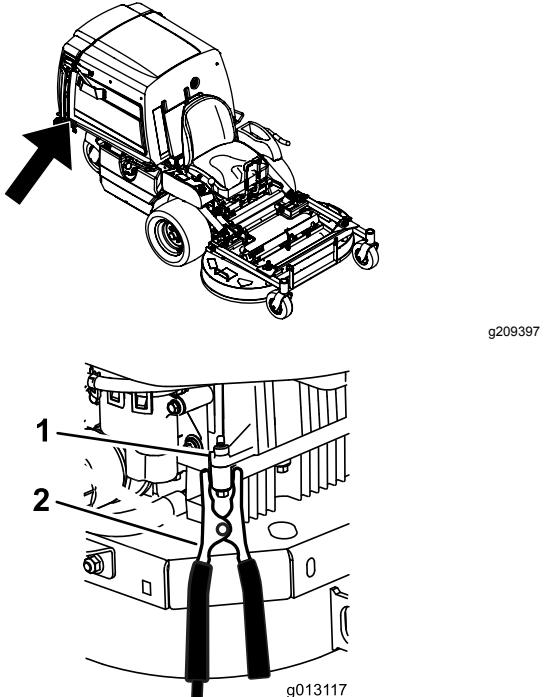

Figure 48
6. Make the final connection on the engine block of the stalled machine (not to the negative battery post), away from the battery, and stand back (Figure 48).